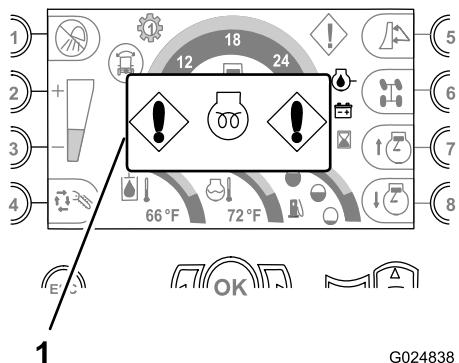

Figure 32
- **Wait-to-start-engine indicator**—This indicator displays when the key switch is in the On position and the intake air heater for the engine is energized (Figure 32).
**Note:** Wait until the indicator no longer appears before attempting to start the engine (Figure 32).